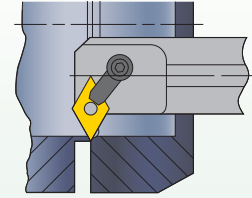

Figure 4
- On tubing-type parts that require a chamfer on the ID, align ID chamfer tool with cut-off surface. This will enable the chamfering operation to actually separate the part from the bar (see Figure 4). Note the part may drop onto the chamfering bar, which, in this case, will act like a catcher for the part.